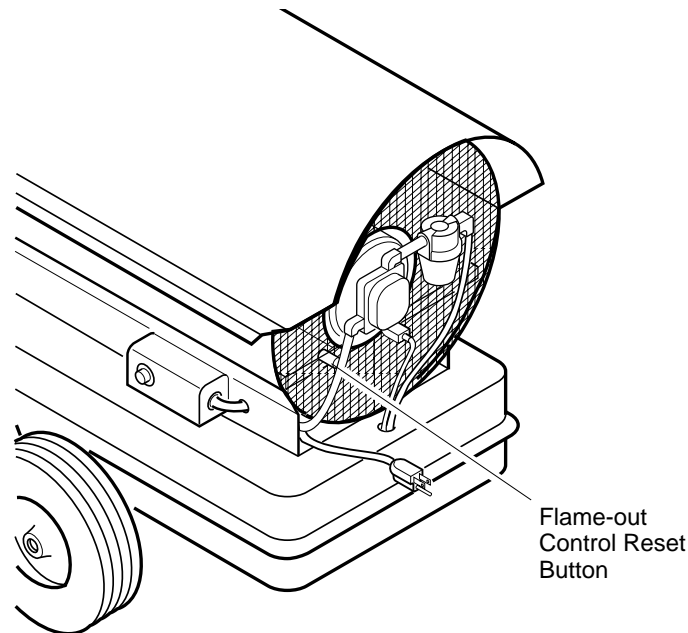

Figure 4 - Flame-out Control Reset Button
6. The motor will start when power cord is plugged into outlet. The heater should ignite at once. If heater does not ignite, restart heater. To restart heater, wait 60 seconds, then push in flame-out control reset button. Flame-out control reset button is at rear of heater near power cord (see Figure 4).
4. Press and release flame-out control reset button. See Figure 4, page 8 for button location.